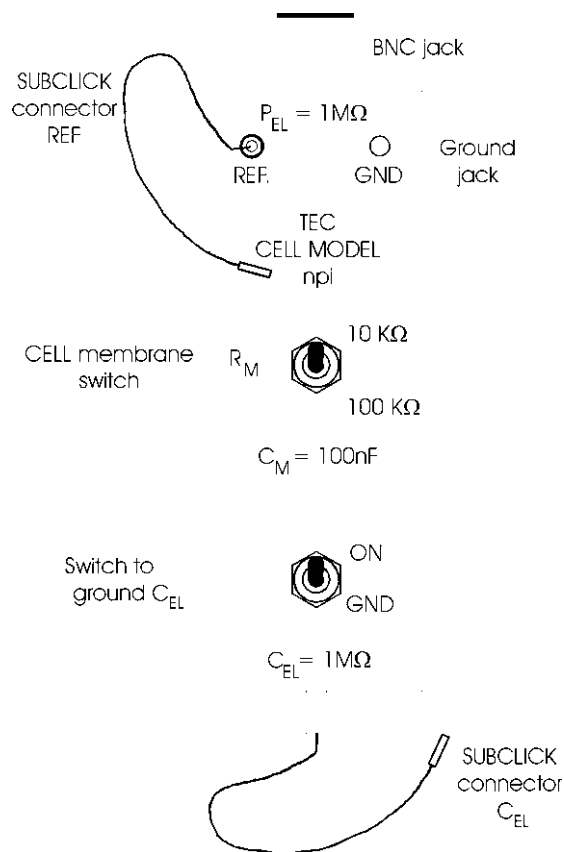
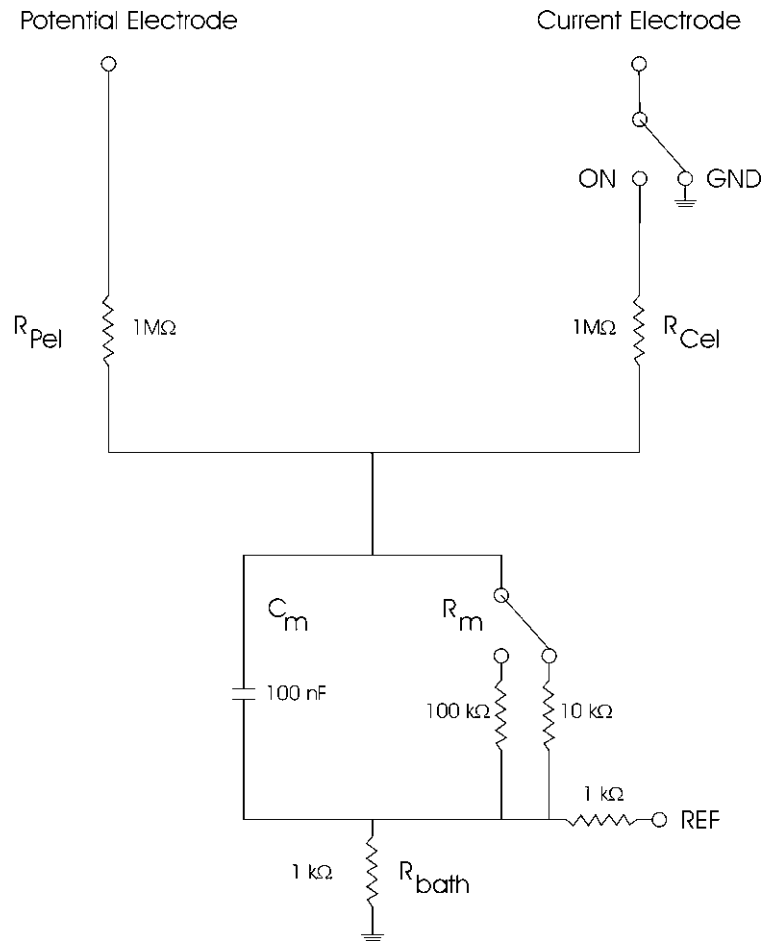

Figure 1: TEC passive cell model
Figure 2: schematic diagram of the TEC passive cell model
This cell model consist only of passive elements i.e. resistors that simulate the resistance of the cell membrane and the electrodes and a capacitance that represents the capacitance of the cell membrane. A switch allows to simulate two different conditions of the cell (see Figure 1 and Figure 2). A second switch permits grounding the current electrode.
- Switch the CELL membrane switch (see Figure 1) to the desired position.
- Set the GND switch (see Figure 1) to ON.